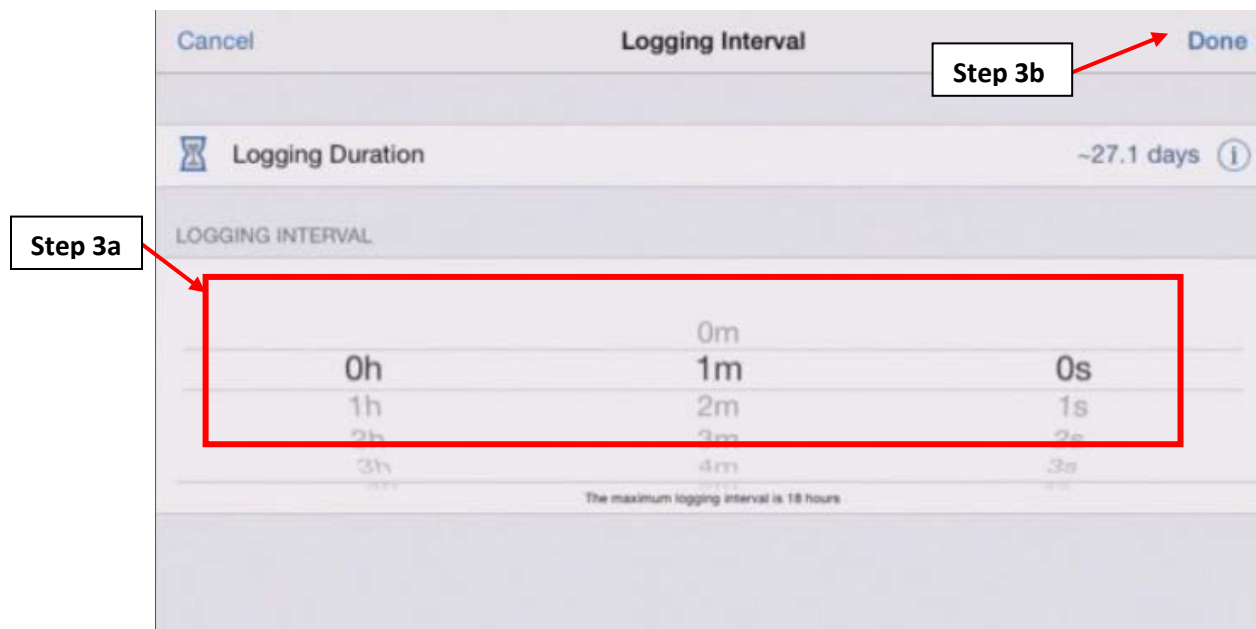

Figure A.7.6: The “Logging Interval” screen.
- b. Tap “Done” (Figure A.7.6) to go back to the “Configure” screen.